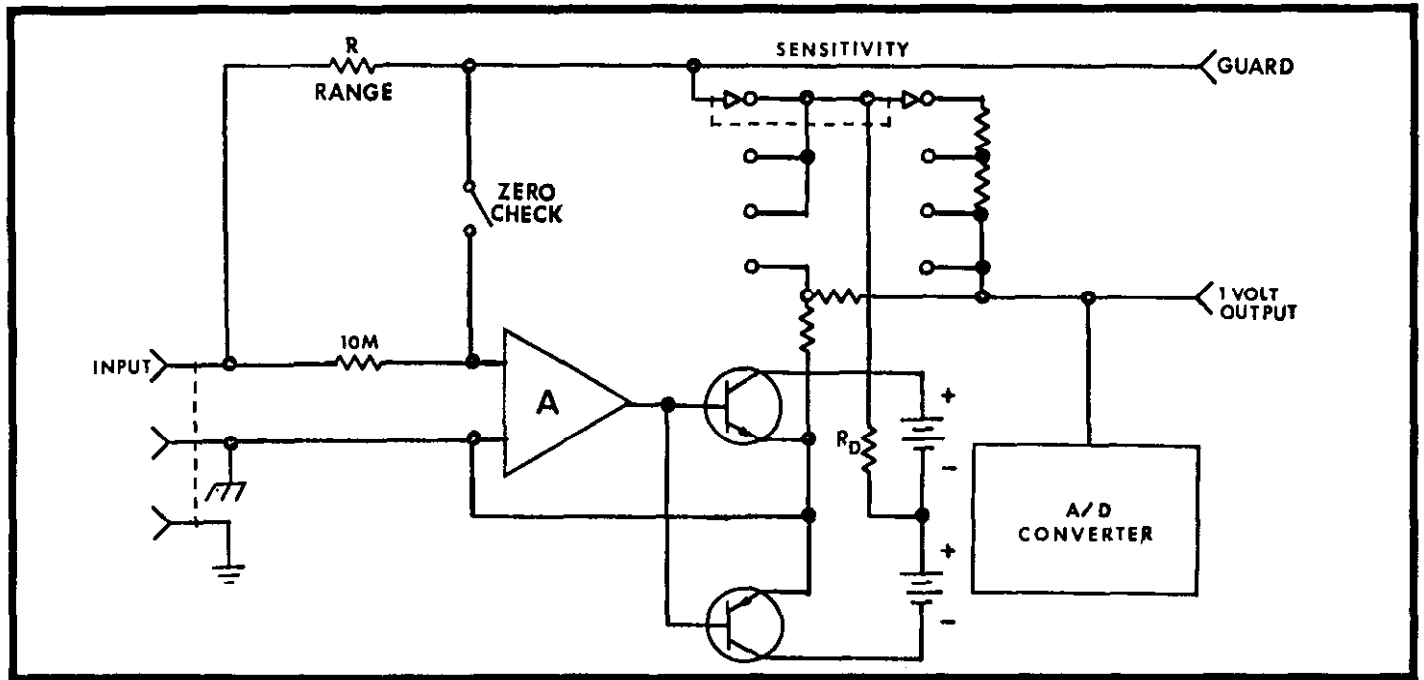

FIGURE 12. Ammeter-Coulombmeter Fast Mode.
b. Fast Mode. With the FEEDBACK Switch in the FAST position, an accurately known RANGE Switch resistor (CURRENT Range only) R1202 through R1212 is connected across the amplifier feedback loop as shown in Figure 12. The unity-gain output (X1) is connected to Input LO. In this mode the GUARD and X1 Terminals may be used for monitoring purposes. The Fast Mode configuration minimizes the slowing effects of input capacitance. The input voltage drop is maintained at less than 100 microvolts.